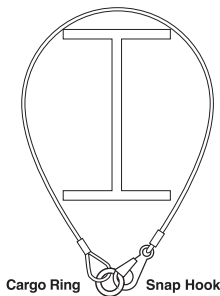
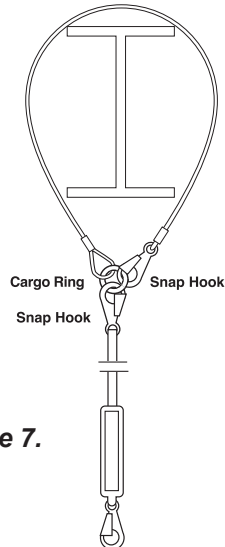

Figure 6.
Figure 7.
- 4) When a worker is looping an extender cable around an I-beam or structure to create an anchorage, the only approved location to attach the Extender Cable snap is to the Extender Cable cargo ring (Fig. 6). When anchoring the personal protective equipment to the Extender Cable, the only approved location to attach to the snap of the shock-absorbing lanyard is to the cargo ring of the Extender Cable (Fig. 7).
Train workers to be aware of resulting free-fall distances when they anchor at their feet. When using a 6 ft. shock absorbing lanyard, a typical fall will require 16 ft. plus the length that the cargo ring hangs below the top of the walking working surface. Therefore the Wire Rope Extender Cable should not be longer than needed just to circle the anchorage structure (Fig 6).